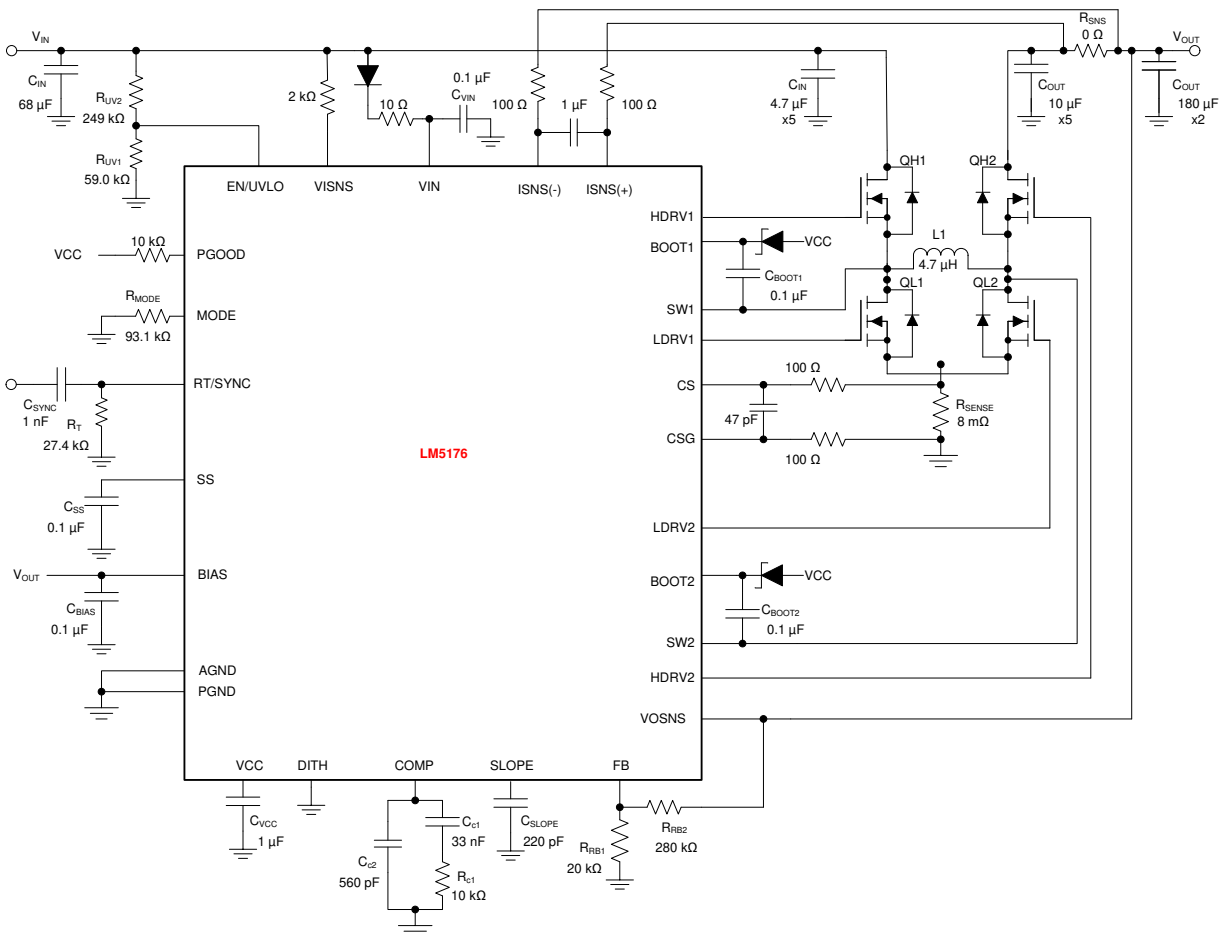

Figure 8-1. LM5176-Q1 Four-Switch Buck Boost Application Schematic
A filter network as shown in Figure 8-1 is often used across ISNS(+) and ISNS(-) pins to filter the ripple in the average current sense signal.
For an application where input voltage is higher than 40 V, a 2-k Ω resistor in series with the VISNS pin is required as shown in Figure 8-1.
The LM5176-Q1 has a gm error amplifier for loop compensation. The gm amplifier output (COMP) range is 0.3 V to 3 V. Connect an R_{C1} - C_{C1} compensation network between COMP and ground for type II (PI) compensation (see Figure 8-1). Another pole is usually added using C_{C2} to suppress higher frequency noise and switching frequency ripple.
The low-side gate drivers are powered from VCC and the high-side gate drivers HDRV1 and HDRV2 are powered from bootstrap capacitors C_{BOOT1} (between BOOT1 and SW1) and C_{BOOT2} (between BOOT2 and SW2), respectively. The C_{BOOT1} and C_{BOOT2} capacitors are charged through external Schottky diodes connected to the VCC pin as shown in Figure 8-1.
Typically a combination of ceramic and bulk capacitors is needed to provide low ESR and high ripple current capacity. The complete schematic in Figure 8-1 shows a good starting point for C_{OUT} for typical applications.
The maximum RMS current occurs at $D = 0.5$, which gives $I_{\text{CIN(RMS)}} = I_{\text{OUT}} / 2 = 3 \text{ A}$. A combination of ceramic and bulk capacitors should be used to provide short path for high di/dt current and to reduce the output voltage ripple. The complete schematic in Figure 8-1 is a good starting point for C_{IN} for typical applications.
For some application circuits, it can be required to add a filter network to attenuate noise in the CS and CSG sense lines. See Figure 8-1 for typical values. The filter resistance should not exceed 100 Ω .